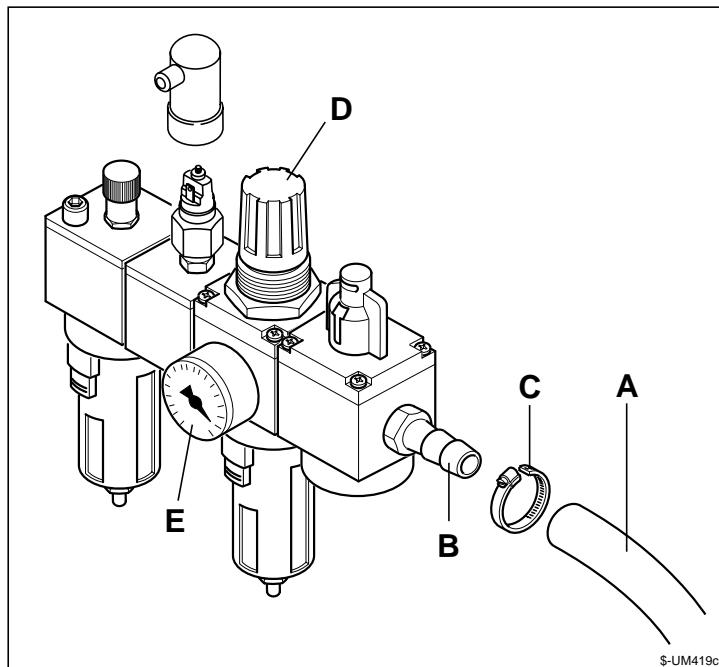

Fig. 2.17
- Connect the air hose A (Fig.2.17) to the 14 mm diam. connector B of the filter unit.